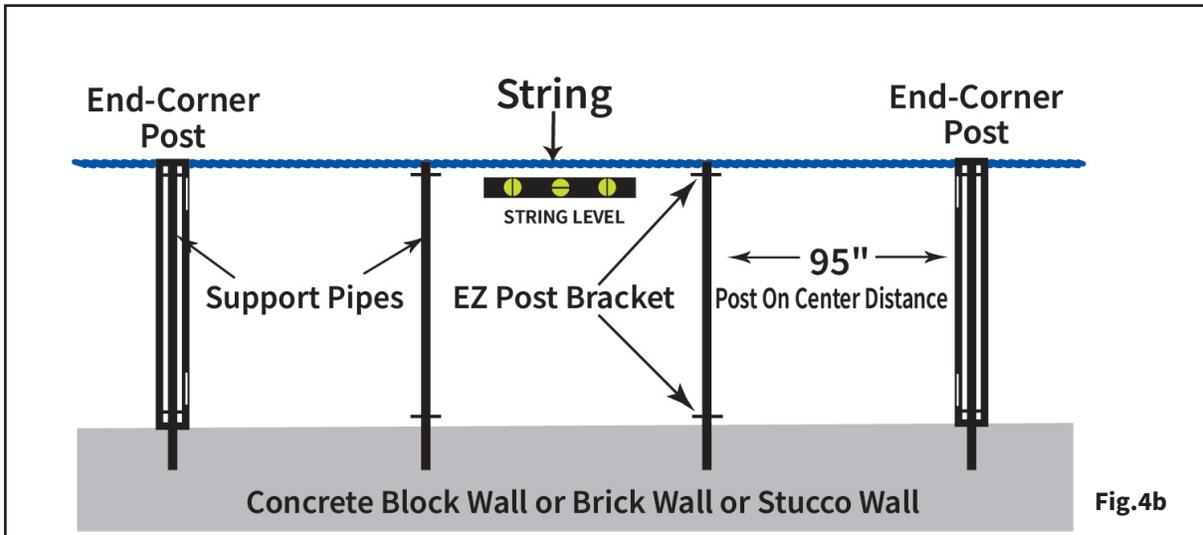

Fig.4b
2. After all wall topper posts are in place and secure (**Fig. 4b**) move to Assemble and Install Sections.